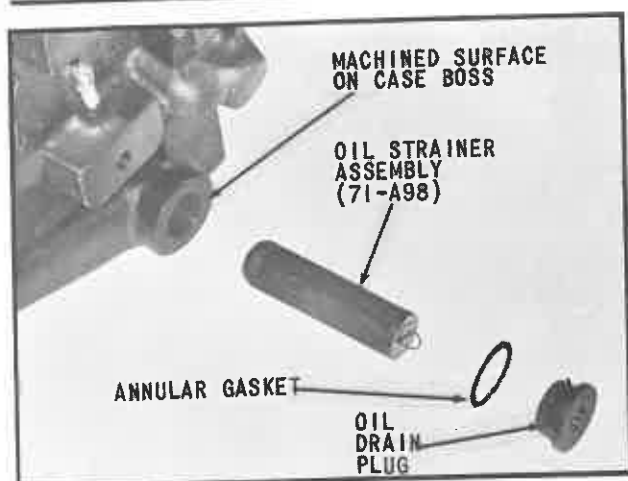

Fig. 10 Installation of Oil Strainer as Used with Drain Plug and Annular Gasket
6. The replacement parts for the old circulation system are illustrated in (Fig. 10). Oil strainer assembly 71C-A98A has now replaced the old oil strainer assembly 71-A98, but these two parts are fully interchangeable in this oil circulation system.
7. Some of the reduction transmissions with the old circulation system require the use of an annular gasket and oil drain plug with a different thread than presently used. These assemblies can be easily identified by the machined surface on the transmission case boss which mates with the annular gasket (Fig. 10).